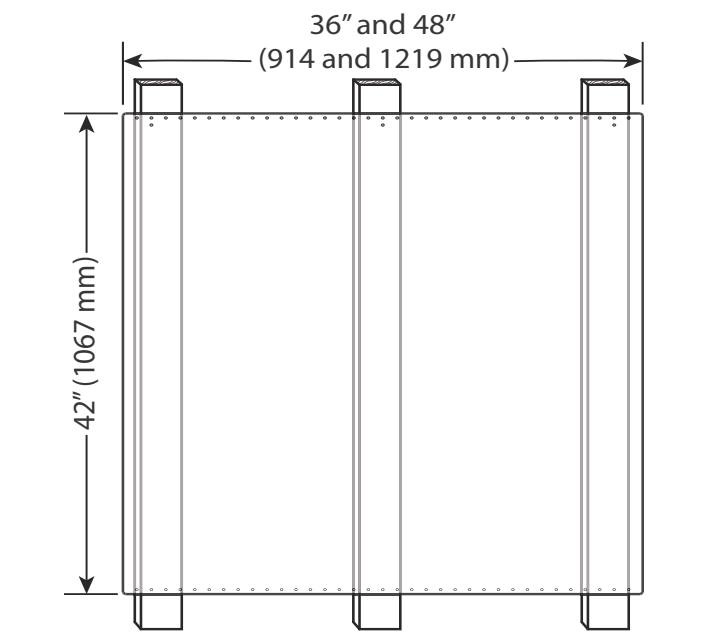

Figure 20: Backsplash Installation
3. Per each wall stud, use (2) 1" (25.4 mm) Phillips head screws to secure both the top and bottom of the Backsplash (see *Figure 20*). Space screws evenly across top and bottom of Backsplash.